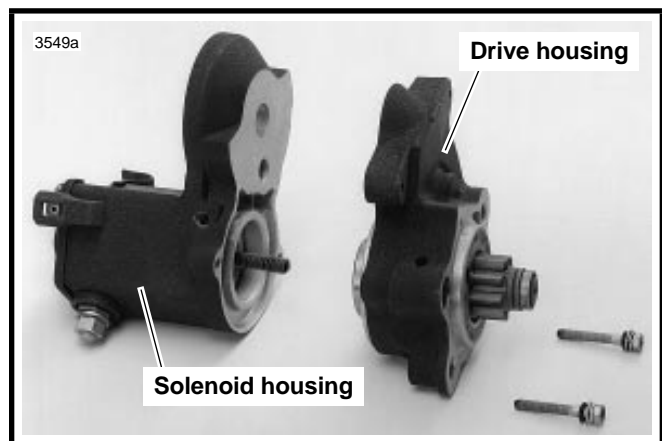

Figure 5-23. Removing Starter Drive Housing
16. See Figure 5-23. Remove two drive housing mounting screws (with washers and lockwashers). Remove drive housing from solenoid housing.